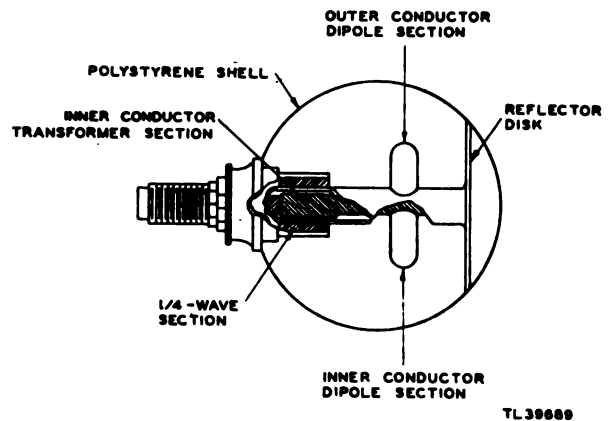

Figure 68. Antenna sphere, cutaway view showing construction details.
**a. MECHANICAL CONSTRUCTION.** The details of construction are shown in figure 68. The antenna dipole is in two halves which are soldered to the inner and outer conductors of the transmission line. One half of the dipole is soldered to the outer conductor; the other half passes through a large opening cut in the outer tubular conductor and is soldered to the inner conductor. A one-fourth wave tubular section having a diameter larger than the outer conductor surrounds the outer conductor of the main transmission line and is connected to it at one end. A short distance in front of the dipole is a small reflecting disk which is attached to the main transmission line. Near the metal reflecting disk, the r-f line is closed and shorted by a copper plug which fills the space between the inner and outer conductors.
**b. FUNCTIONING OF PARTS.** (1) *Quarter-wave section.* The quarter-wave section (fig. 68) is made necessary because the dipole requires a push-pull voltage, yet it is fed by a coaxial line whose outer conductor is grounded. By surrounding this outer conductor with the one-fourth wave section and grounding the one-fourth wave section to the transmission line at one end only, both halves of the dipole are made to receive a push-pull output. The reason for this follows: At one end of the one-fourth wave section, a high impedance exists. This allows radio frequency to appear on the outer conductor of the main transmission line. The inner and outer conductors now tend to assume a balanced condition with respect to ground so that the dipoles in effect are fed from a balanced push-pull line. Note that the outer conductor of the coaxial transmission line is grounded along its entire length to the transmitter except between the point of connection of the one-fourth wave section and the outer end of the antenna.
(4) *Transformer.* That part of the inner conductor designated as the transformer in figure 68 is used to match the transmission line to the dipole; that is, to make certain that there is the most efficient transfer of energy between the line and the dipole. This section is similar to that used at the transmitter tube.